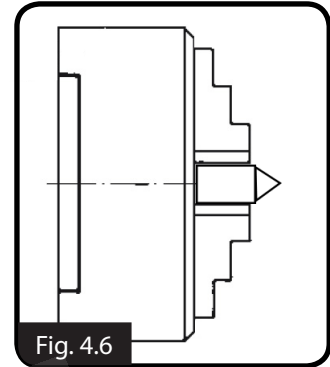

Fig. 4.6
2. Use the other piece of round stock to make a dead center, and turn it to a 60° point, as illustrated in the Fig. 4.6